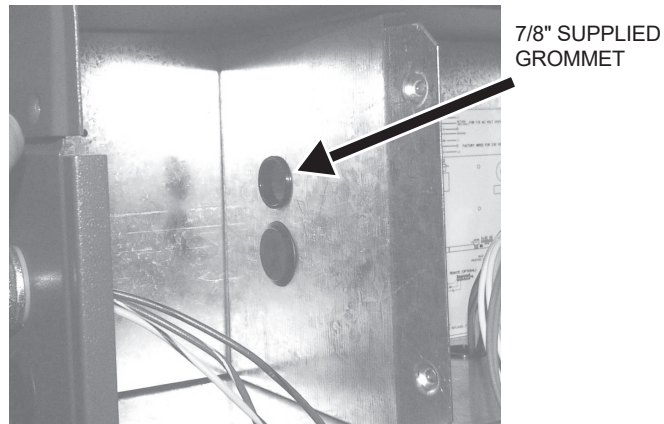

Figure 20. Grommet Location
18. Remove and replace the 7/8" plug with the provided 7/8" grommet (located on the left side of the control panel). See **Figure 20**.